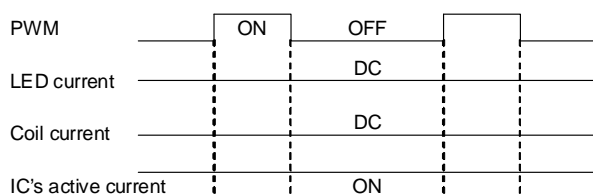

Figure 69. DC dimming
(3)DC Dimming controlled by 8bit current DAC and PWM duty for CABC, as shown in Figure 69.